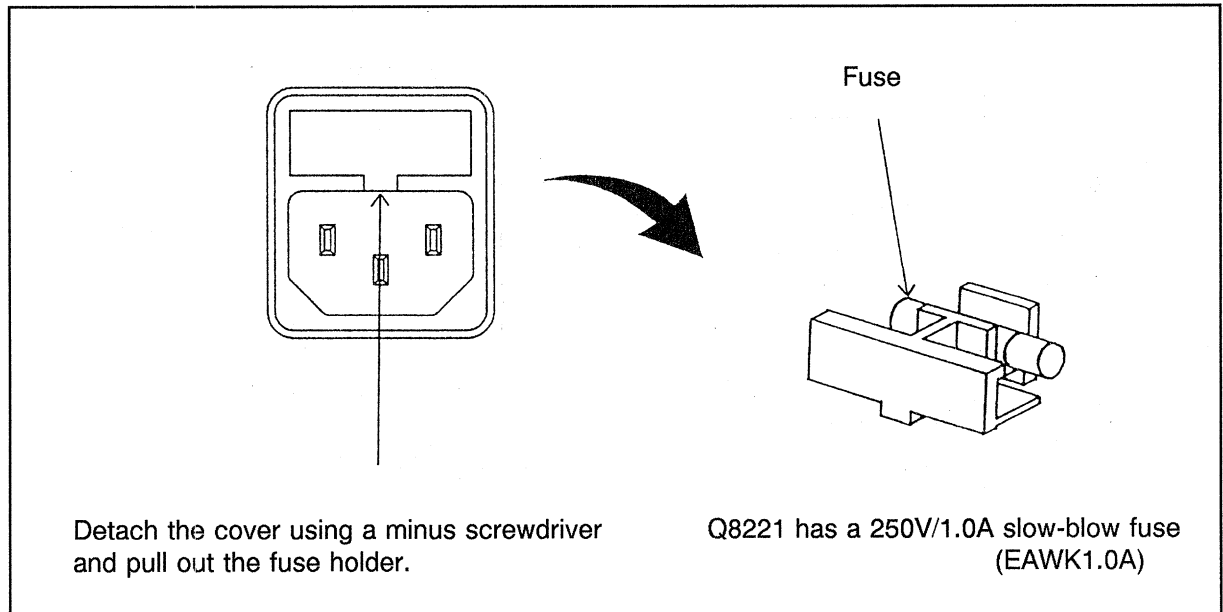

Figure 2-1 Checking Fuse
- ① Remove the power cable from the AC power connector.
- ② Pull out the fuse holder using a minus screwdriver. (See Figure 2-1.)
- ③ Replace the broken fuse with a new fuse if the fuse attached with the fuse holder is broken.
- ④ Insert the new fuse into the fuse holder then install the power cable to the AC power connector.